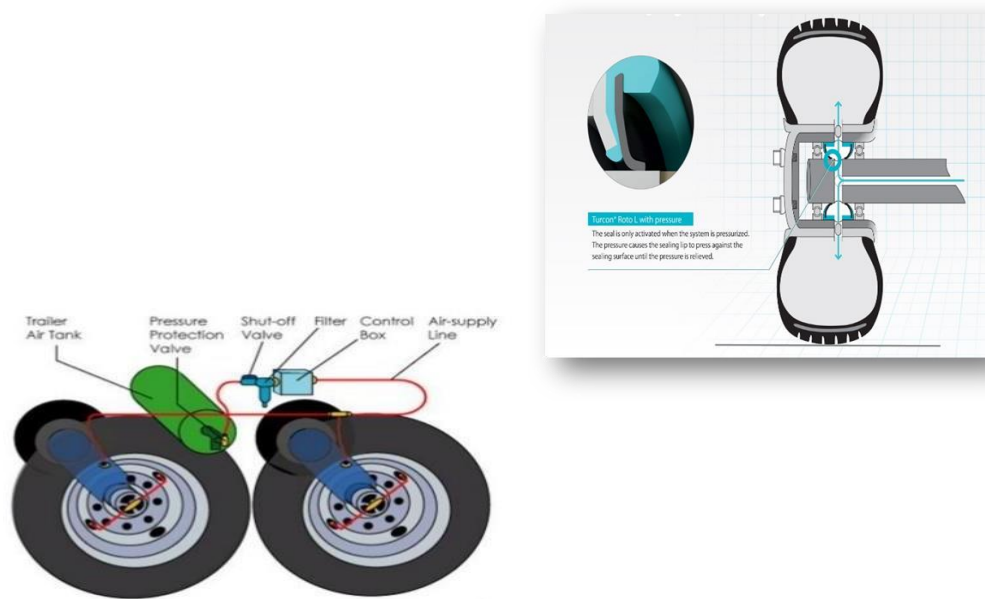

Figure 5 - Components of an Air delivery system
- c) Air delivery system- It consists of pipes which carries the pressurized air as sent by the compressor after being sensed by the pressure gauge sensors. The parts of the air delivery system is generally short made and softer (strong enough to withstand the air pressure) so that it can fit into the wheels, avoiding any damage to it. These pipes are joined to small tubes which will join to tires and delivering air from compressor. This system contains self-actuating valves which ensures safe and required pressure delivery of air. To prevent the backflow, kill switches are installed for constant pressure supply to the tire. A diagram (Figure 5) is shown for the better understanding of air delivery system and its components.
- d) Pressure Gauge and sensors- The pressure gauge and sensors are the most crucial pieces of equipment since they are responsible for measuring the real tyre pressure and determining how much additional air is actually required to be delivered in order to re-inflate the tyres. The sensors find the lowest and highest pressure levels. When the pressure level drops below the minimum optimum pressure boundary, it will be in the ON position; conversely, when the pressure level rises above the maximum ideal pressure limit, it will be in the OFF position. In the housing of the pressure gauge, there is sticky oil. The oil filling has many benefits, including reducing pointer vibrations and preventing ambient air from entering the system, which prevents condensation of water. Since the reading provided by the gauge is entirely digital, it is exceedingly accurate and simple for the user to understand. The accuracy of pressure gauges is categorized based on precession, with grade D having a 5% inaccuracy and grade 4A having a 0.1% error. Figure 5 shows how seals open when there is pressure applied, and they stay open until the pressure is released.